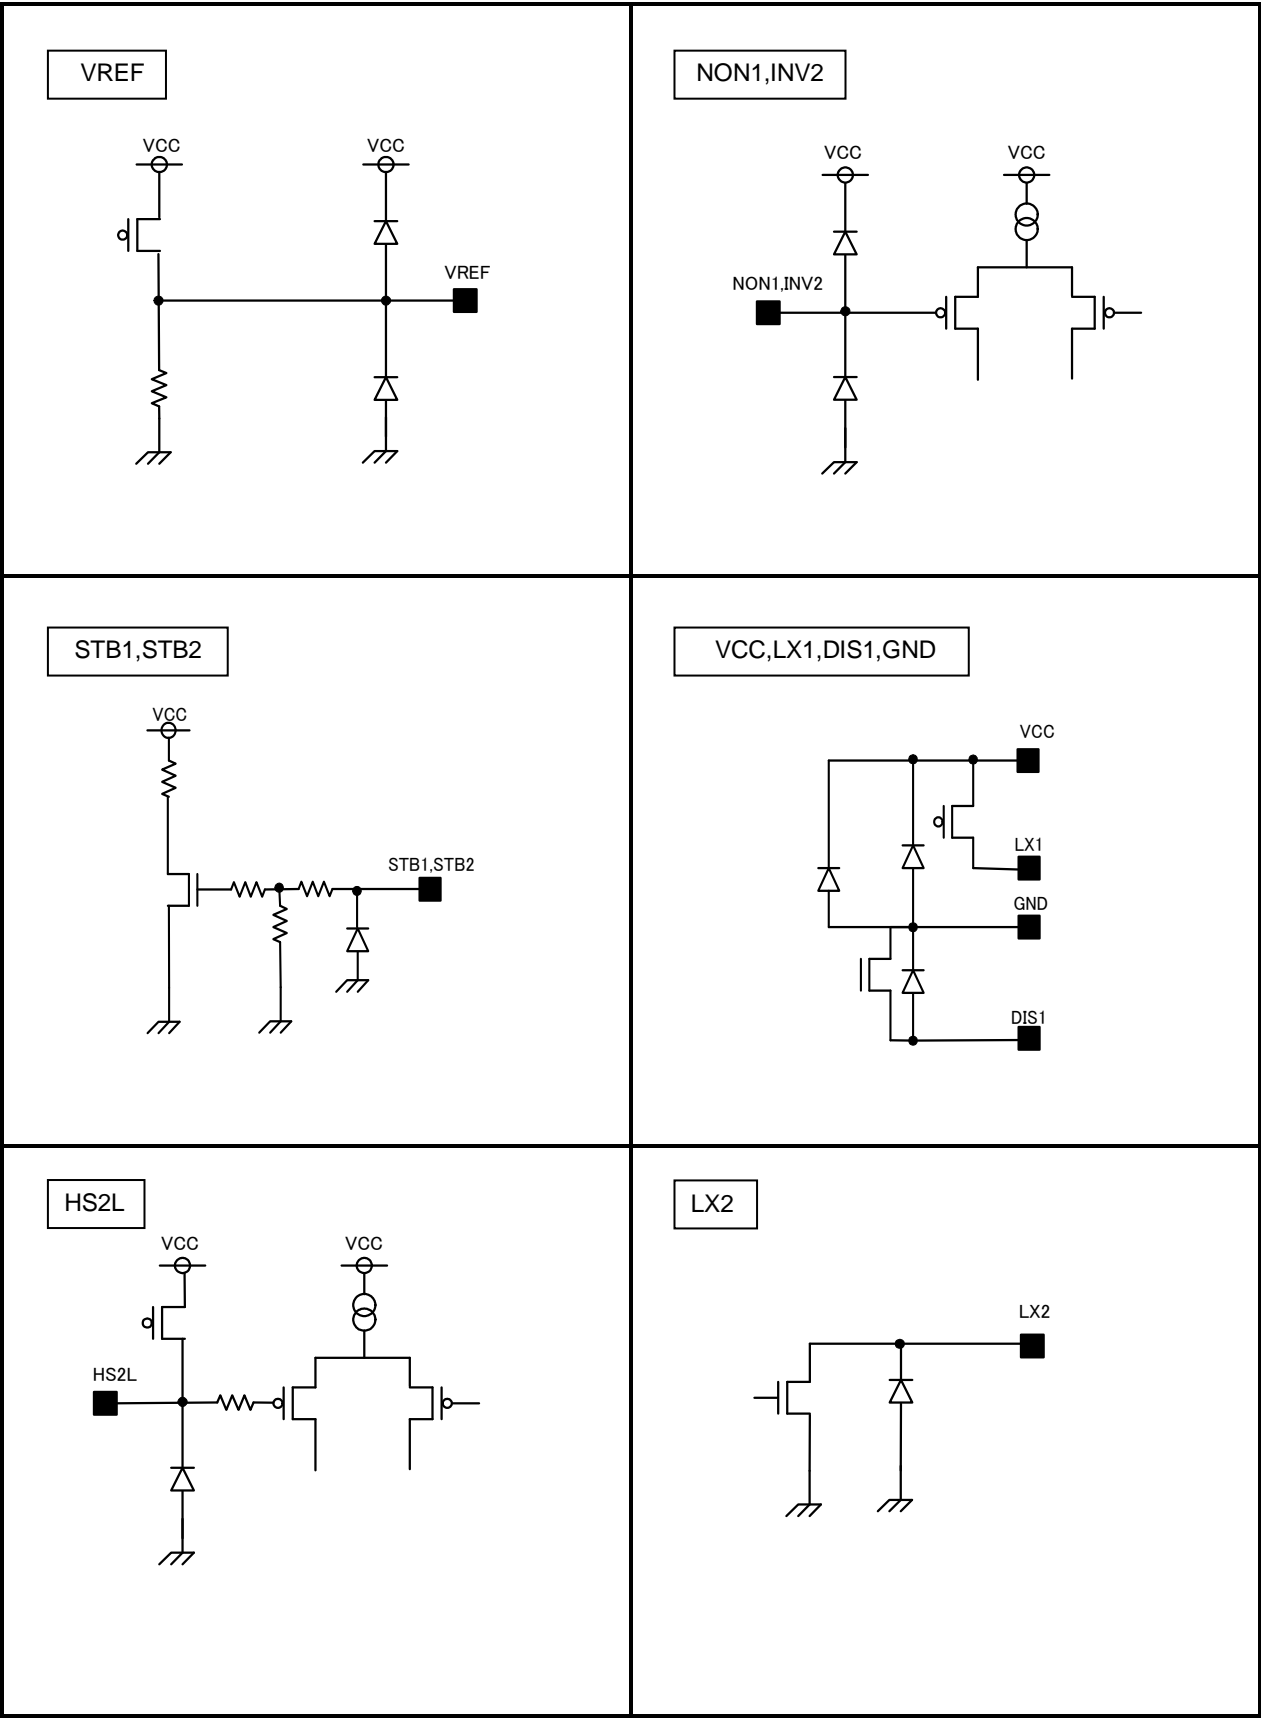

Figure 34. I/O Equivalence Circuit
The internal reference voltage of the ERROR AMP is 0.8 V. Output voltage should be obtained by referring to Equation (4) of Fig.34.